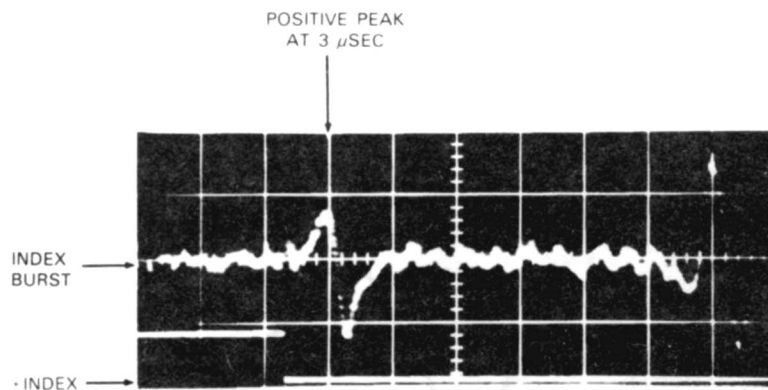
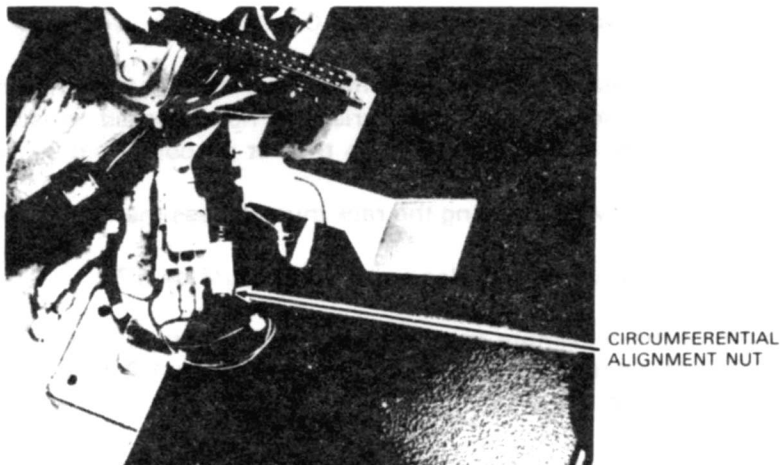

FIGURE 5-2. PULSE BURST
FIGURE 5-3. INDEX TRANSDUCER
4. Check the pulse-burst timing of the selected head. The scope trace should resemble the one illustrated in Figure 5-2. The pulse burst should occur 3  $\mu\text{sec}$   $\pm$  2  $\mu\text{sec}$  after the leading edge of +Index.
While observing the burst-track display (Figure 5-2) on the scope, tighten the adjustment nut slightly (Figure 5-3). If tightening the nut causes the pulse burst to appear closer to the 3  $\pm$  2  $\mu\text{sec}$  range after Index, continue tightening until the pulse burst falls within that range. If not, loosen the nut until the pulse burst occurs after the optimum interval.